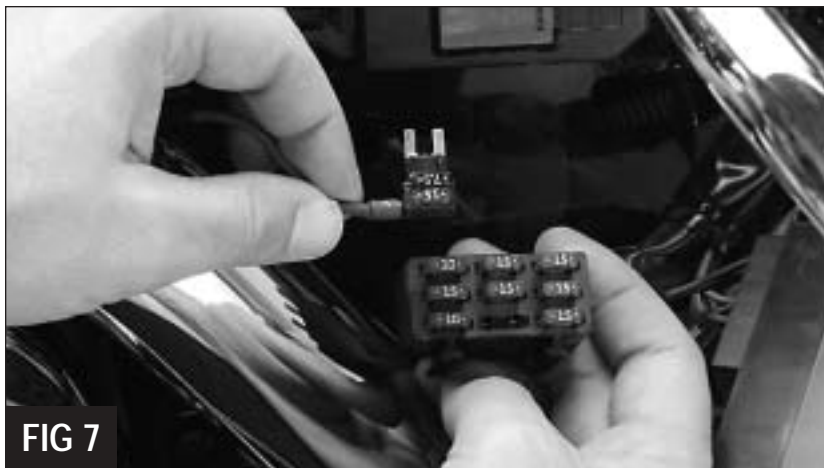

FIG 7
11. Remove the ACCESSORY fuse. Plug this fuse into the pigtail as shown in Figure 7 and slip the pigtail into the accessory slot.